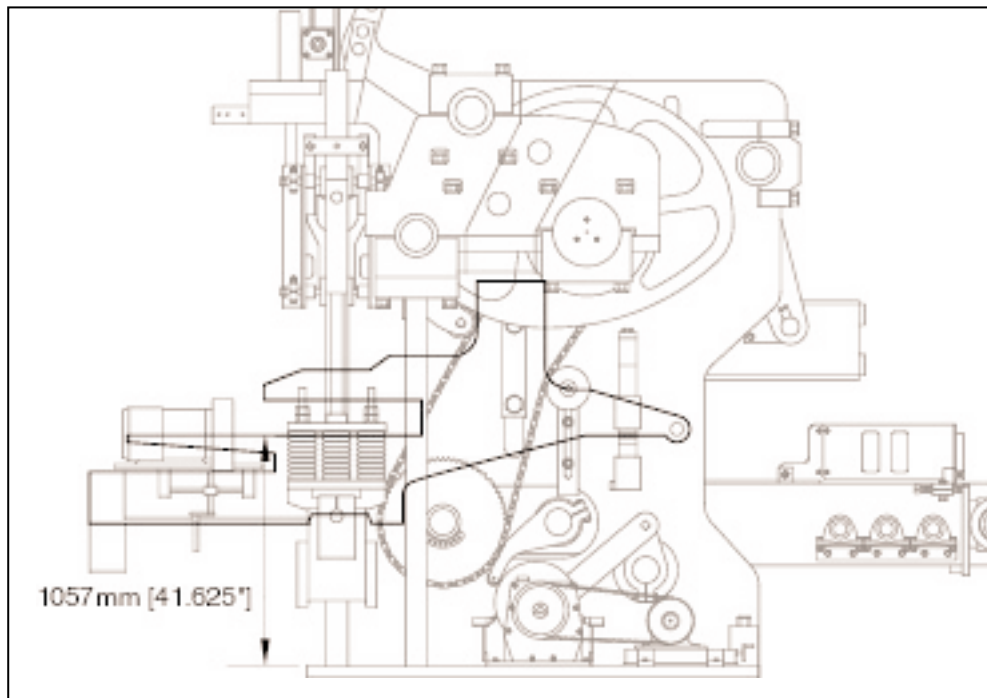

Figure 4.35 INNER FRAME ADJUSTMENT.
4.3.2 Adjust the inner frame so that the mold throat is **1057mm [41.625"]** above the top on the base plate (figure 4.35). **83mm [3.25"]** of spacers are required. To do so, follow these procedures.